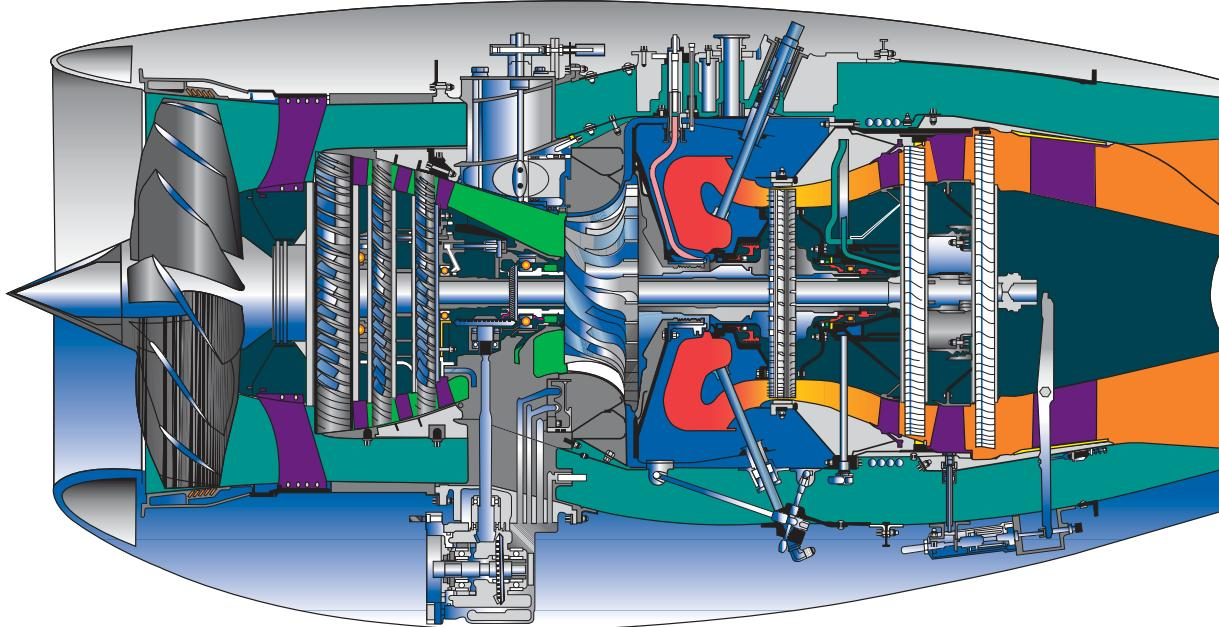

Figure SR-5. FJ44-2C Gas Flow
- Williams/Rolls-Royce trademark FJ44-2C (Figure SR-5)